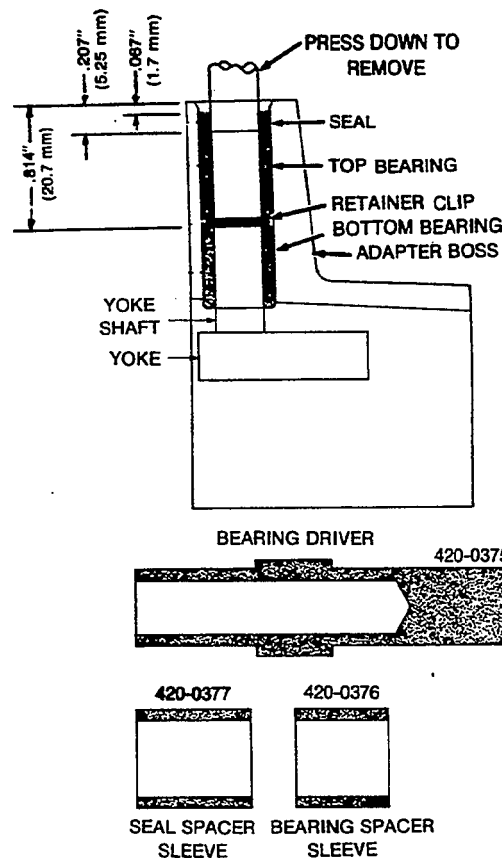

FIGURE 62. BEARING INSTALLATION AND TOOL PACKAGE (420-0374)
1. Referring to Figure 62, press shaft and yoke assembly towards center of adapter until shaft and bottom bearing slips out bottom end.